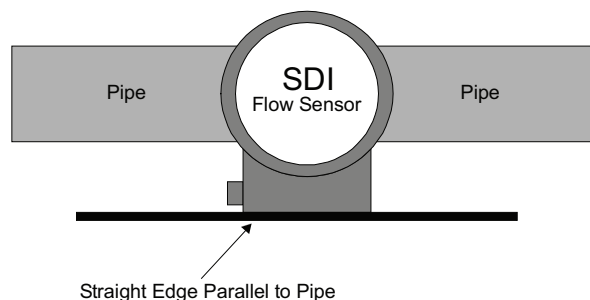

Figure 6: Level the sensor
6. Continue to insert the flow sensor stem until the stem collar meets the cover. Thread the hex cap onto the mounting adapter but do not tighten. Align the flow sensor with the pipe by using the flat cover on the electronics housing as a guide. Place a straightedge along the cover and rotate the sensor until the straightedge is parallel with the pipe as shown in Figure 6. Tighten the hex cap over the collar approximately 10 ft-lb. The hex cap holds the sensor alignment but performs no sealing functions. **DO NOT OVER TIGHTEN**